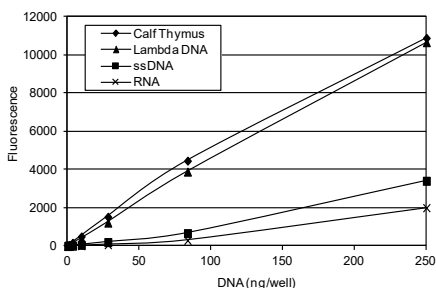

Figure 2. Selectivity of AccuClear® dsDNA quantitation assay for double-stranded DNA compared to single stranded DNA and single-stranded RNA.
AccuClear® Ultra High Sensitivity dsDNA Quantitation Kits provide highly sensitive and accurate DNA quantitation across a broad range of DNA concentrations. Unlike absorbance-based measurements, AccuClear® dye is highly selective for double-stranded DNA over single stranded DNA or RNA (Figure 2). The assay is linear between 0.03 ng and 250 ng of dsDNA per assay (3 pg/uL to 25 ng/uL sample concentration) in 96-well microplate format (Figure 3).
9. To determine the unknown DNA concentration generate a standard curve (see Figure 3). Average the triplicate values for each standard sample and subtract the average zero DNA value from each data point. Plot the fluorescence values for the DNA standards on the y-axis and ng/well DNA on the x-axis, and fit a trend line through these points to generate a standard curve with a y-intercept = 0. Use the equation for the standard curve trend line to calculate the amount of unknown DNA in each well ($y = \text{fluorescence}$ and $x = \text{ng DNA per well}$). Note: the standard curve shown in Figure 2 is for reference only. You must generate your own standard curve using your instrument to calculate the amount of DNA in your unknown samples.
Calf thymus DNA can serve as a reference for most plant and animal DNA because it is double-stranded, highly polymerized and is approximately 58% AT (42% GC). Lambda dsDNA yields similar results (Figure 2). You may wish to use a standard similar to your unknown samples in DNA length, structure (i.e., linear vs. circular), or GC content. For bacterial DNA, a species-specific standard may be desired because the GC content varies widely depending on the species. The AccuClear® dsDNA Quantitation Solution is available without standards (cat. no. 31027) for customers who wish to prepare their own standards.